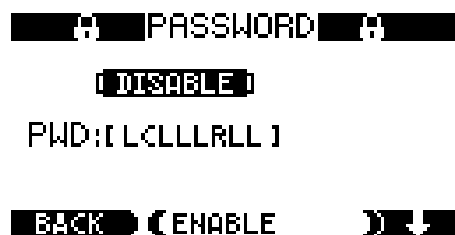

Figure 13: Set password screen
- 6iv) Use the right-hand button labelled with an arrow to scroll through the menu. Highlight SET PASSWORD then press the central ENTER button. This brings up the password screen, shown in Figure 13.